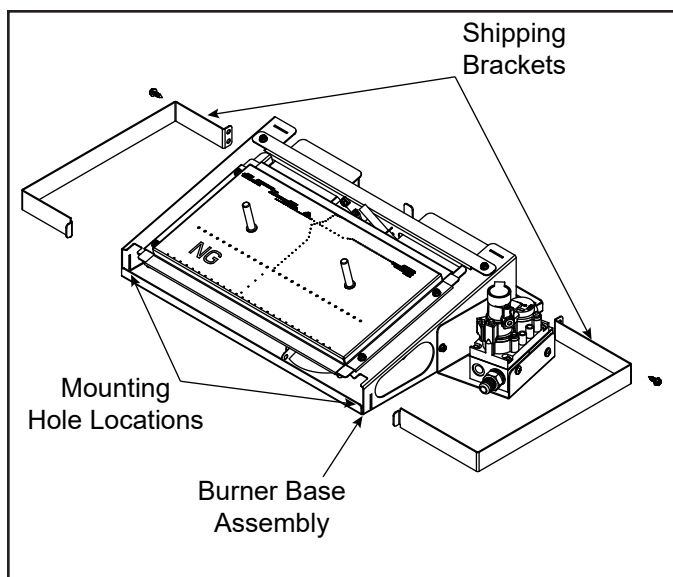

Figure 9.1 Shipping Brackets & Mounting Hole Locations
1. Remove and discard shipping brackets supplied on burners. See Figure 9.1.
5. Once the appliance is positioned correctly, side to side and front to back, mark the mounting hole positions on the fireplace floor. See Figure 9.1 for mounting hole locations.
6. Drill (2) 5/32" diameter holes approximately 1-1/2" deep.